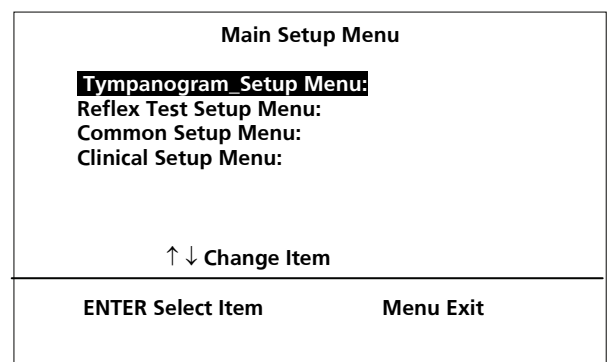

Figure 27
Select the menu option SETUP as illustrated in Figure 27 and the main setup menu will appear on the LCD display ⑤. You can make different settings for the measurement of the Tympanogram and the stapedius reflex, for instrument setup (for example the contrast of the LCD display⑤). All your settings are saved permanently until you will change them again. The settings also survive when the instrument is switched off.